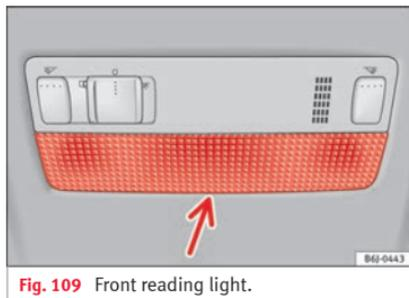

Fig. 109 Front reading light.
- Insert a fine screwdriver between the casing and the glass » **Fig. 109**.